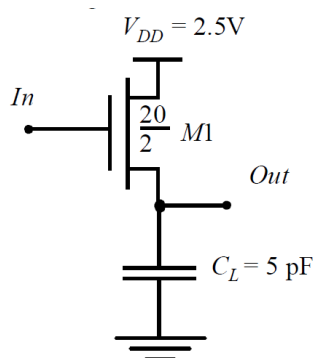

Figure 8.
5. An NMOS transistor is used to charge a large capacitor, as shown in Fig. 8. $V_{DSAT}=0.63V$, $V_{TN0}=0.43V$, $\gamma = 0.4V^{1/2}$. [12 pts]